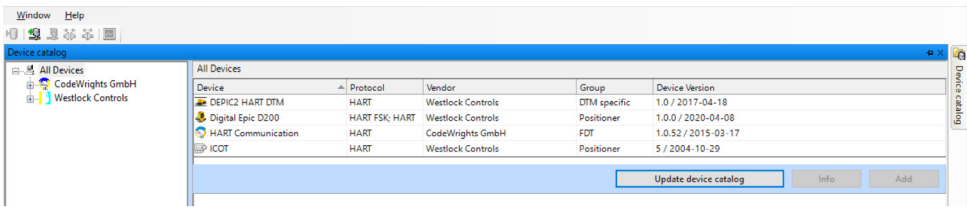

Figure 3: Device Catalog
- 2. Click on Device Catalog icon which is located on the upper right hand toolbar. Alternatively, select View on the top of the menubar and select Device Catalog. Figure 3 illustrates the the Device Catalog screen.